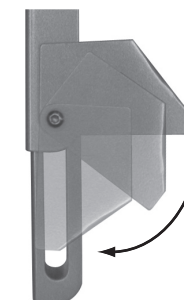

Fig. 6 - Set the tilt angle.
5. Set the tilt angle by adjusting the foot located on the bottom of each arm (Fig. 6). When the foot is fully extended, the tilt is approximately 0 degrees. Make sure both feet are set to the same angle.
4. To change the tilt position, have one person carefully pull the bottom of the display away from the wall. Have a second person adjust the feet on the bottom of each mounting arm to the desired position (Fig. 6). Once finished, carefully lower the display back against the wall.